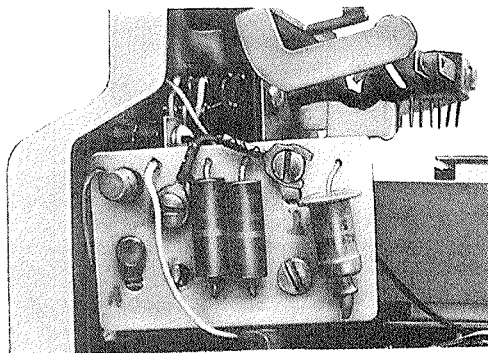

Fig. 14—Polarity Guard Position
- (1) Remove the 635A5 key by springing the support brackets inward until key can be removed from pins. It is not necessary to disconnect the line plugs on the rear of the key.
- (2) Mount the guard assembly to the left-hand bracket in the position shown in Fig. 14 using the screw provided with the assembly. Screw must be inserted through hole from inside of key support bracket.
- (3) Replace key in brackets.